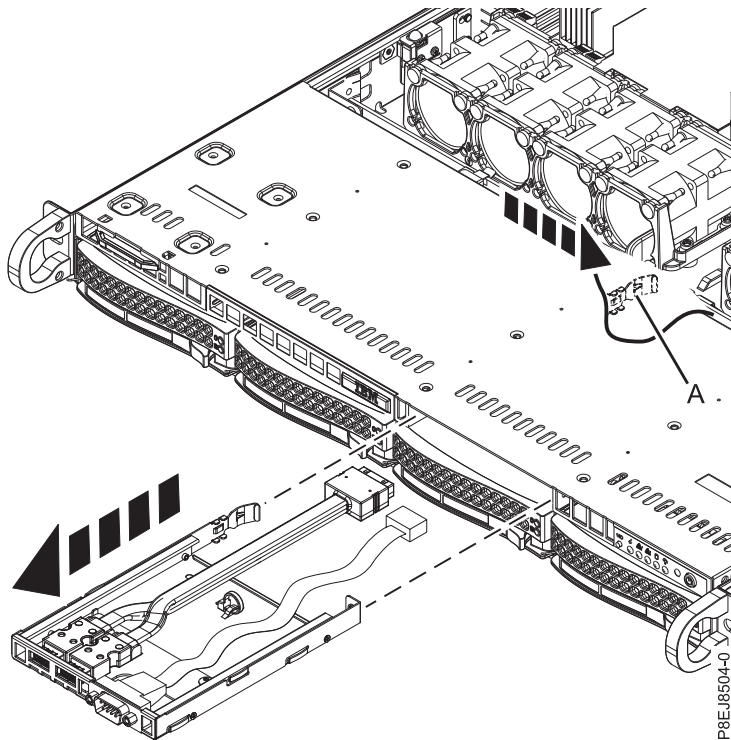

Figure 63. Removing the USB cable and connectors
3. Remove the USB cable and connectors as shown in Figure 63 on page 58.
- a. Push the release latch (A) to the left, and slightly push the latch towards the front of the chassis. This releases and pushes the USB cable and connectors out of the front of the chassis.